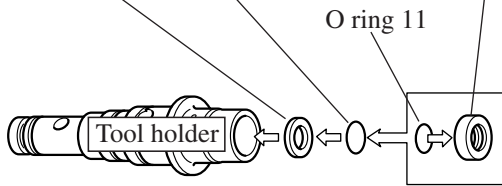

Fig. 24
- (2) Insert the parts into the tool holder in the following order as illustrated in Fig. 24.